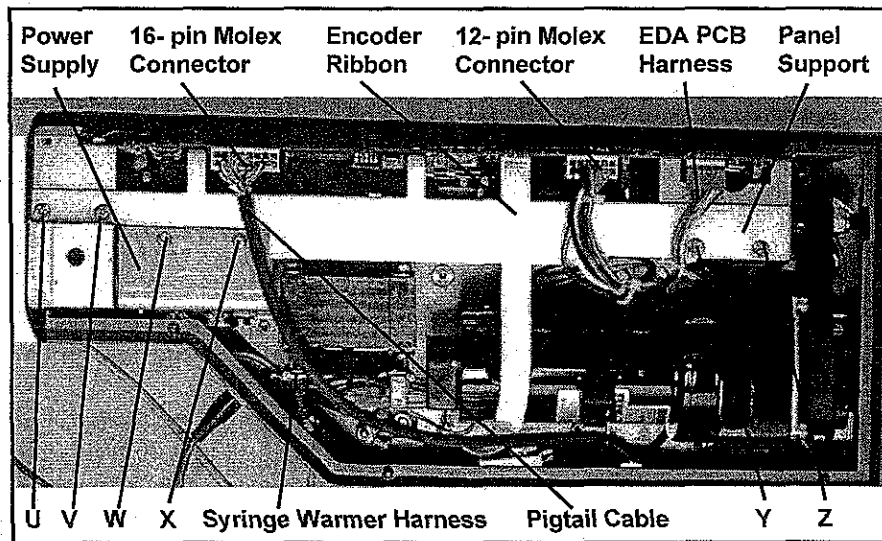

Figure 4-1a: Injector Head (Front Enclosure Removed)
4. Disconnect the EDA PCB Harness (J1 connector) from the EDA PCB (see Figure 4-7a) and the Injector’s main PCB (see Figure 4-1a). Perform continuity tests on the harness and check for shorts between wires and between each wire and Ground/Earth. Replace the EDA PCB Harness if necessary.
Refer to Figures 4-1a, 4-1b, 4-1c, and 4-1d for locating components to be removed or replaced in the Injector Head.
Refer to Figures 4-1a and 4-1c.